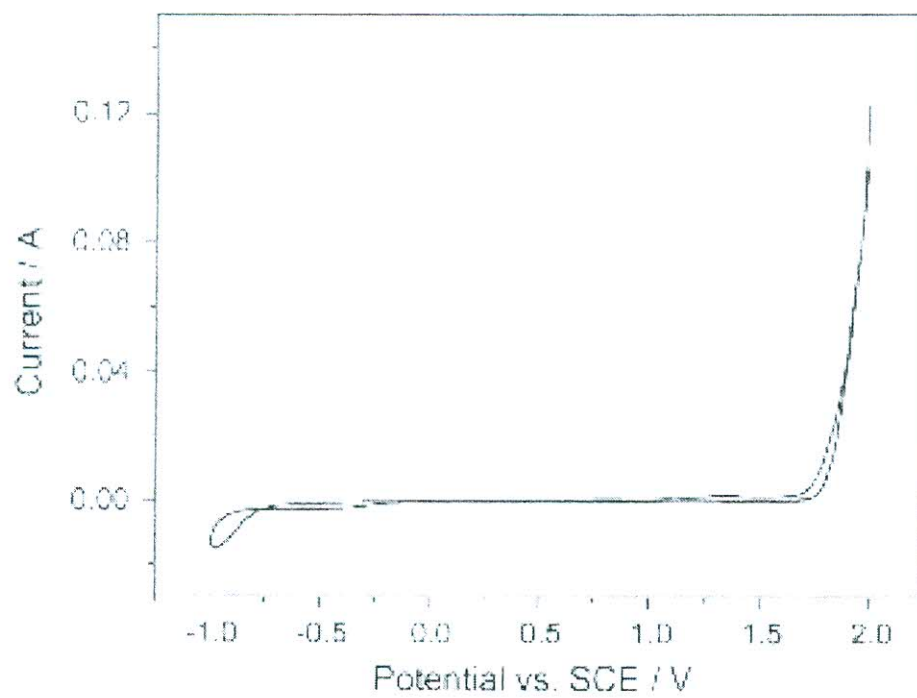

Figure 6
- [b] Figure 6 shows example of CV taken from characterization of Stainless Steel 316. Redraw, label and analyse this result.